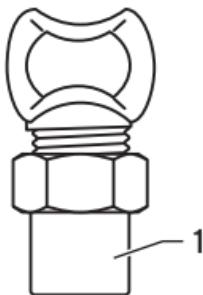

Fig. 3.1 Gas isolation cock in angle design
- The gas isolation cock must be fitted with the socket supplied (1, Fig. 3.1 and 3.2). When replacing the item, the gas isolation cock and the socket must be replaced.